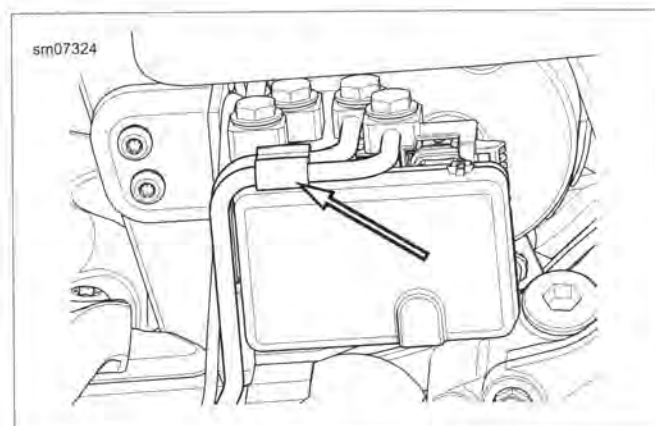

Figure 2-73. Brake Line Clip at ABS Module
6. See Figure 2-73. Remove clip from ABS module brake lines.
See Figure 2-73. Failure to install clip on rear brake lines at ABS module may result in the brake lines rubbing against the rear fork during vehicle operation.
5. See Figure 2-73. Install brake line clip at ABS module.